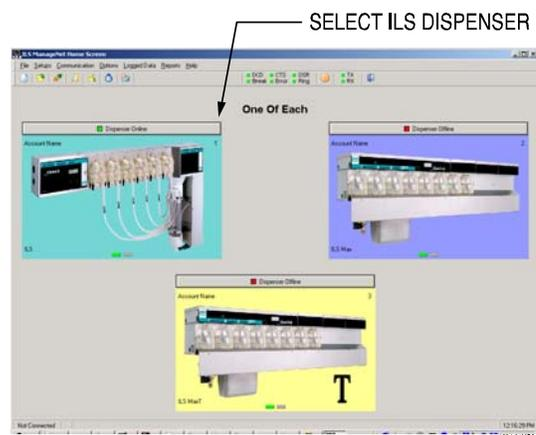

Figure D2. Data-capable XL will appear as ILS in ManageNet
2. When setting up XL with the Data Module, these dispensers do not appear in the ManageNet 3.11 pick list. Select **ILS** for each XL you plan to set up. A graphic of ILS will appear (see Figure D2).